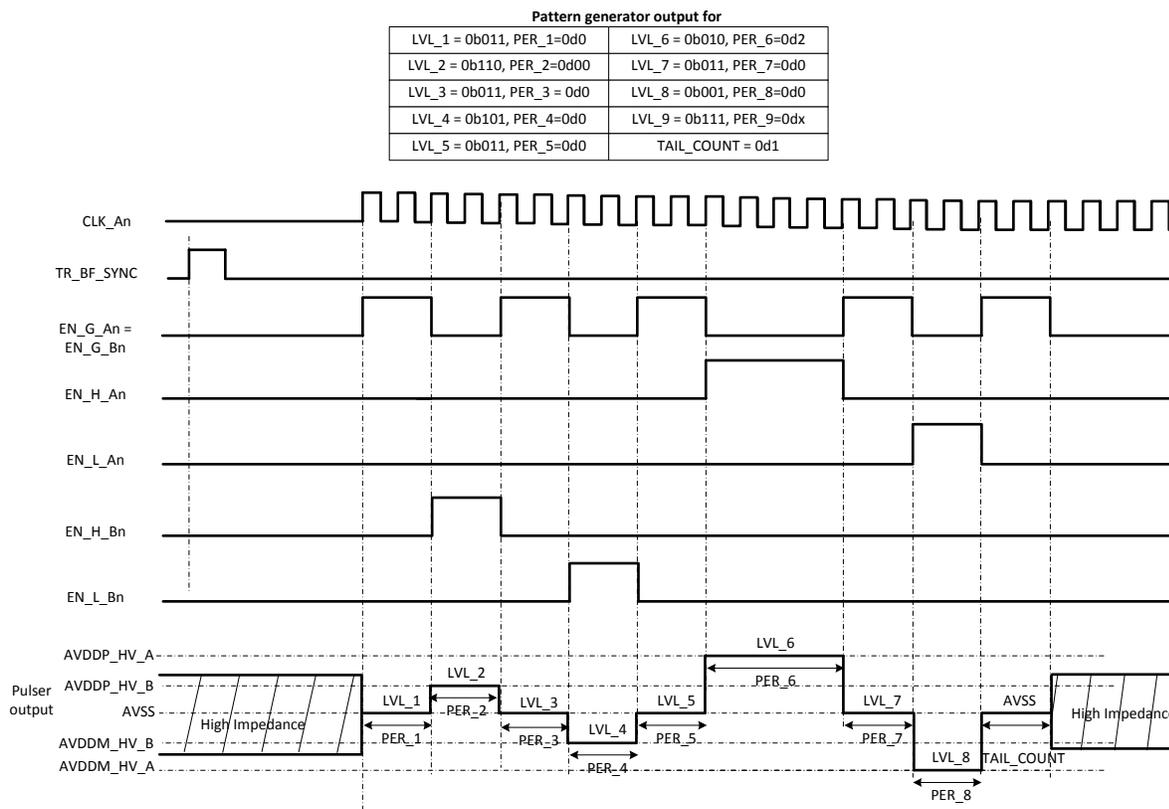

Figure 53. Pattern Generator Output for 5-Level Mode
5. After finishing up the tail pattern, the pattern generator disables all the output signals and the pulser output goes to "high impedance" state. The Pattern generator remain in this state till next TR_BF_SYNC pulse is applied. Refer to Figure 53